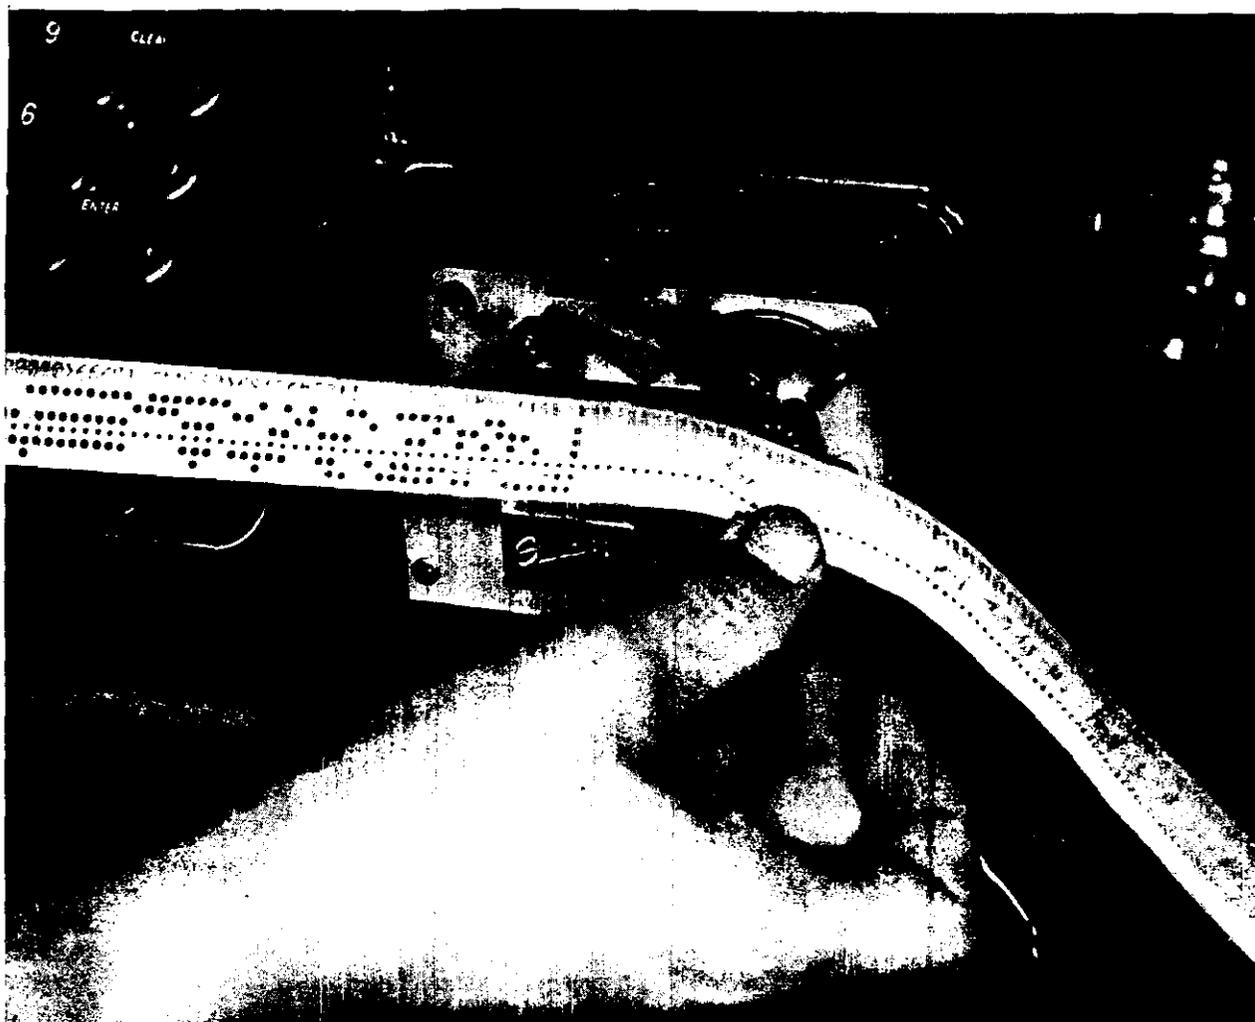

Figure 6. Determining the front of the meteorological message tape.
- (1) Determine the front of the tape by placing the tape in the tape reader with the wide side toward the computer and the printed side up (fig. 6).
- (2) Open the armature clamp that keeps the tape in place.
- (3) Place the tape in the track with the wide side (three holes) toward the computer.
- (4) Insure that the message section of the tape is to the left of the read head; the read head is under the armature clamp.